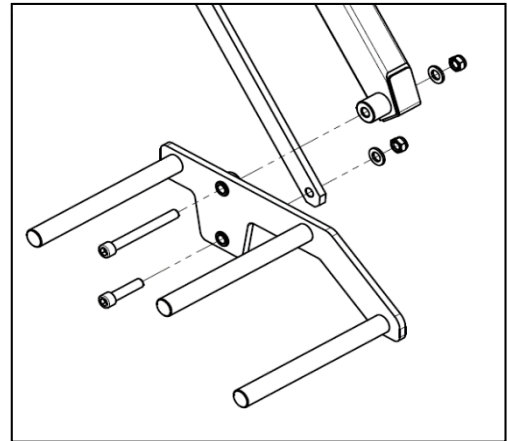

FIG4
- Connect the tire lifter and rod using M12x110 screw, M12x50 screw, flat washer and M12 lock nut like the fig4. Note: do not tighten fully the two nuts. Make sure there's proper gap among every rotation part in order to rotate freely.